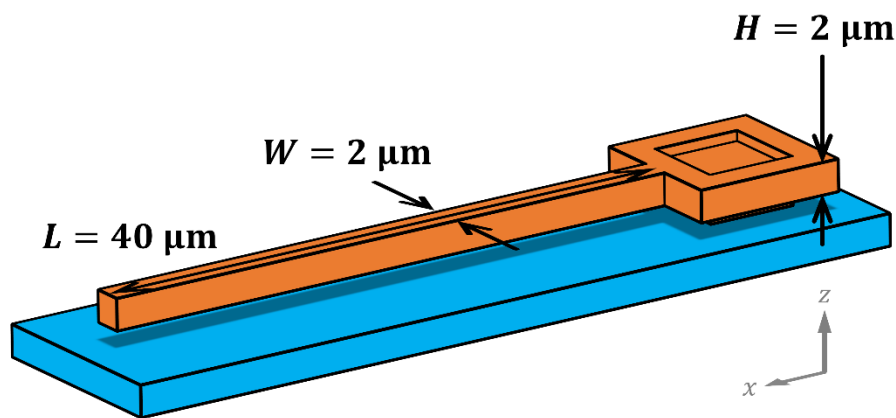
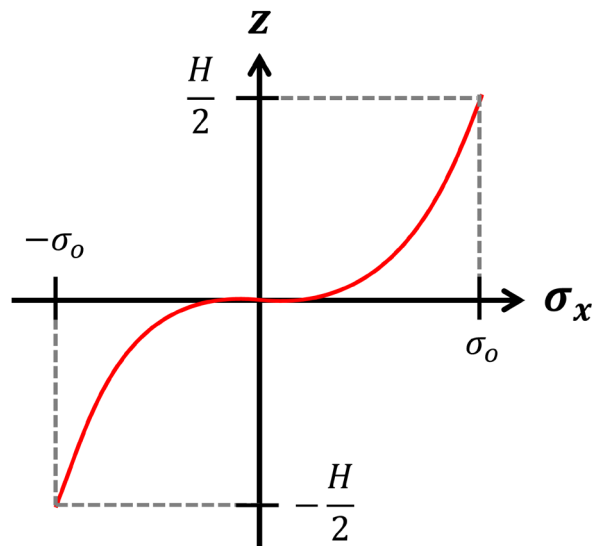

Figure PS4.1
Figure PS4.2
1. Suppose you fabricated a clamped-free beam (i.e., a cantilever) in 2  $\mu\text{m}$ -thick polysilicon, with width  $W = 2 \mu\text{m}$  and length  $L = 40 \mu\text{m}$  as shown in Figure PS4.1. Assume that the deposited polysilicon film has a vertical stress gradient as shown in Fig. PS4.2, where  $\sigma_x$  is proportional to  $z^{1/3}$  with  $\sigma_o = 10^7$  Pa at location  $z = H/2$ , i.e. the top surface of the beam.